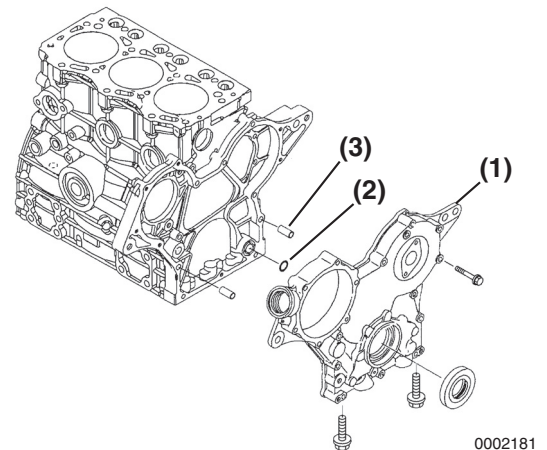

Figure 6-99
1. Apply a continuous bead of ThreeBond Liquid Gasket No. 1212, Yanmar Part No. 977770-01212 to the mounting area of the gear case cover **(Figure 6-99, (1))**. Be sure to circle the bolt holes.
2. Reinstall the dowels **(Figure 6-99, (3))** and a new O-ring **(Figure 6-99, (2))**.